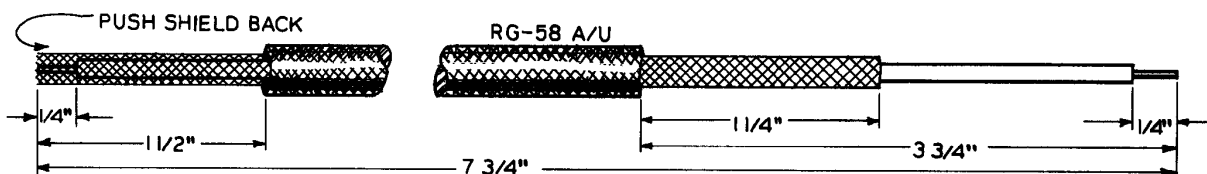

Figure 12A
- (✓) Cut a piece of coaxial cable to a length of 7 3/4". As shown in Figure 12A, strip the outer jacket from one end for a distance of 1 1/2", then, pushing back the shield, strip and tin 1/4" of the inner conductor. Strip the outer jacket off the other end of the cable for a distance of 3 3/4". Cut the shield off on this end at a point 1 1/4" from the outer jacket, then strip and tin 1/4" of the inner conductor.